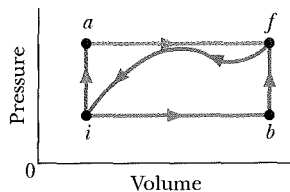

Fig. 18-39 Problem 47.
•47 SSM WWW When a system is taken from state i to state f along path iaf in Fig. 18-39, $Q = 50$ cal and $W = 20$ cal. Along path ibf , $Q = 36$ cal. (a) What is W along path ibf ? (b) If $W = -13$ cal for the return path fi , what is Q for this path? (c) If $E_{\text{int},i} = 10$ cal, what is $E_{\text{int},f}$? If $E_{\text{int},b} = 22$ cal, what is Q for (d) path ib and (e) path bf ?